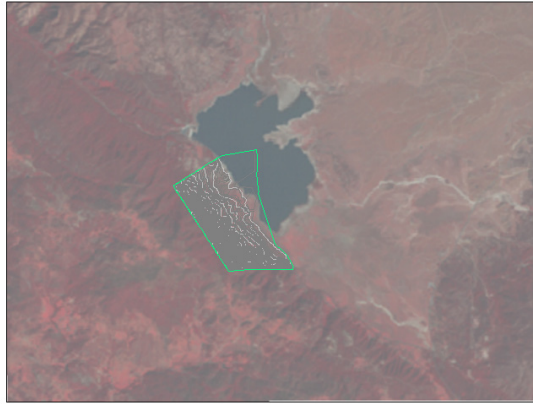

Figure 3-77 Surface displayed over the inserted raster image
7. Choose the **Send to Back** option from this flyout; the surface is now displayed over the image, as shown in Figure 3-77.